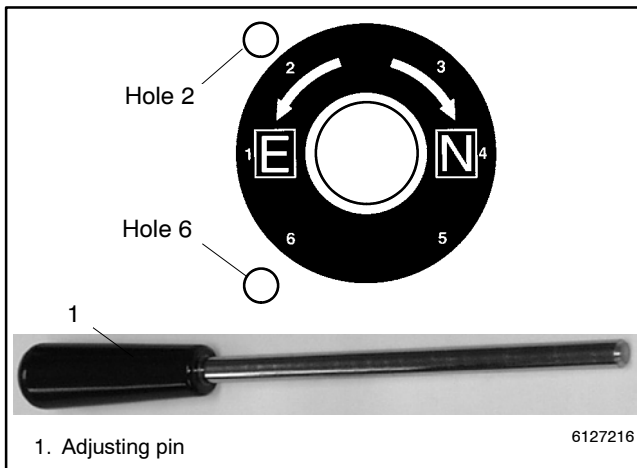

Figure 11-7 Pin the Weight to the Frame. See Step 5.
5. Pin the weight to prevent mechanism from moving. Fully insert the adjusting pin (see page 1) through the frame and into the weight. Only one of the holes lines up with the hole in the weight. If you are replacing the upper contacts, use the hole labeled 2; if you are replacing the lower contacts, use the hole labeled 6. See Figure 11-7.